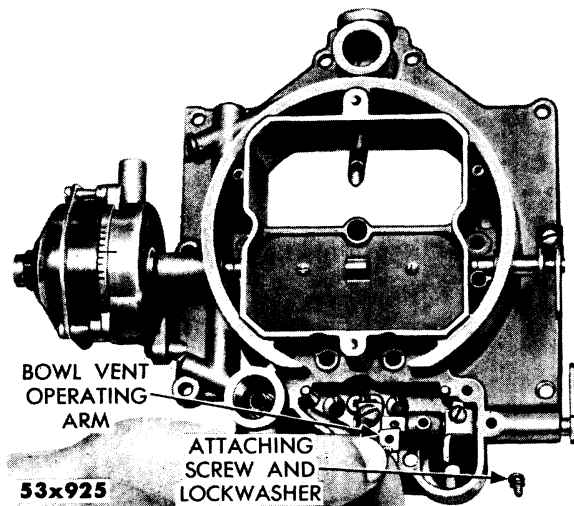

Fig. 33—Removing or Installing Bowl Vent Operating Arm
- (18) Install the bowl vent operating arm with the lever portion facing away from the pump shaft, as shown in Figure 33. Install screw and lockwasher **but do not tighten.**
- (19) Install the fuel inlet filter screen, plug, and gasket. Tighten securely.
- (20) Slide the vacuum piston link down into slot in air horn with the lifter lip facing away from the pump shaft. Be sure the metering rod tension spring is centered in